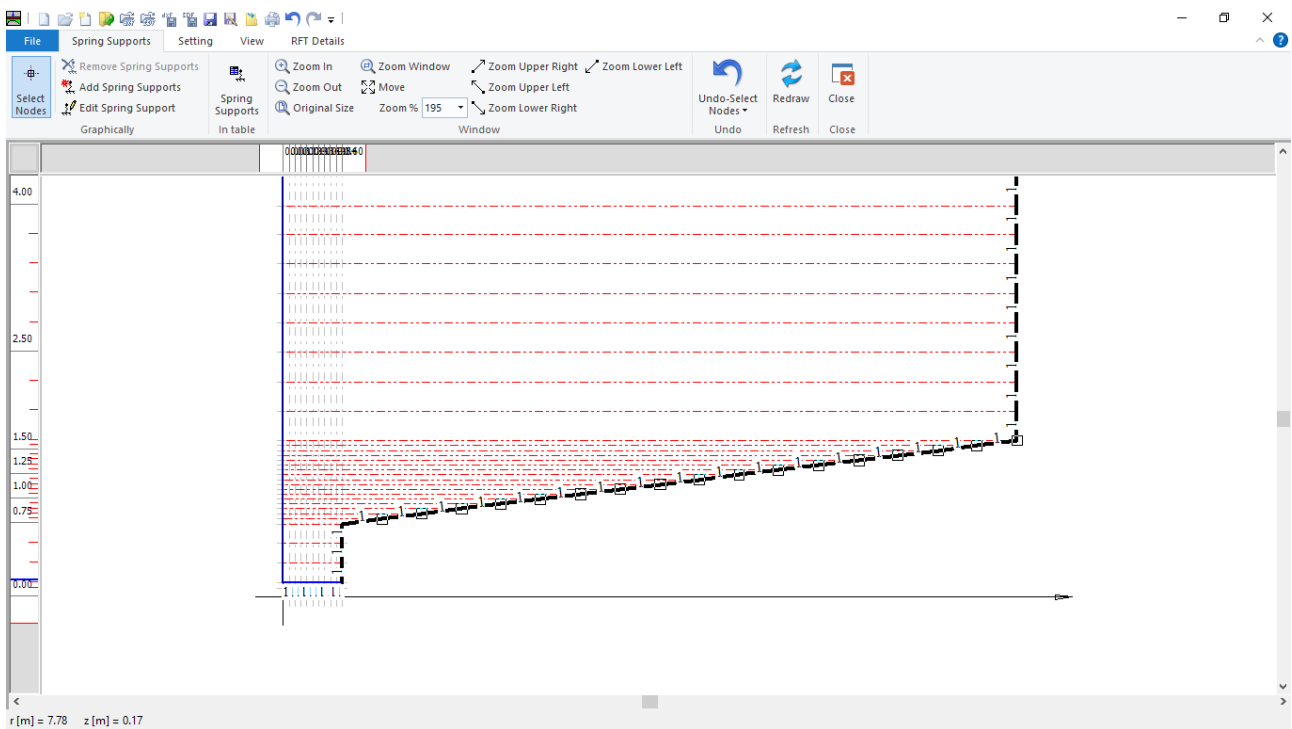

Figure 7.19 Selection of the nodes that have the spring support
- Click the left mouse button on the node that has the spring support as shown in Figure 7.19